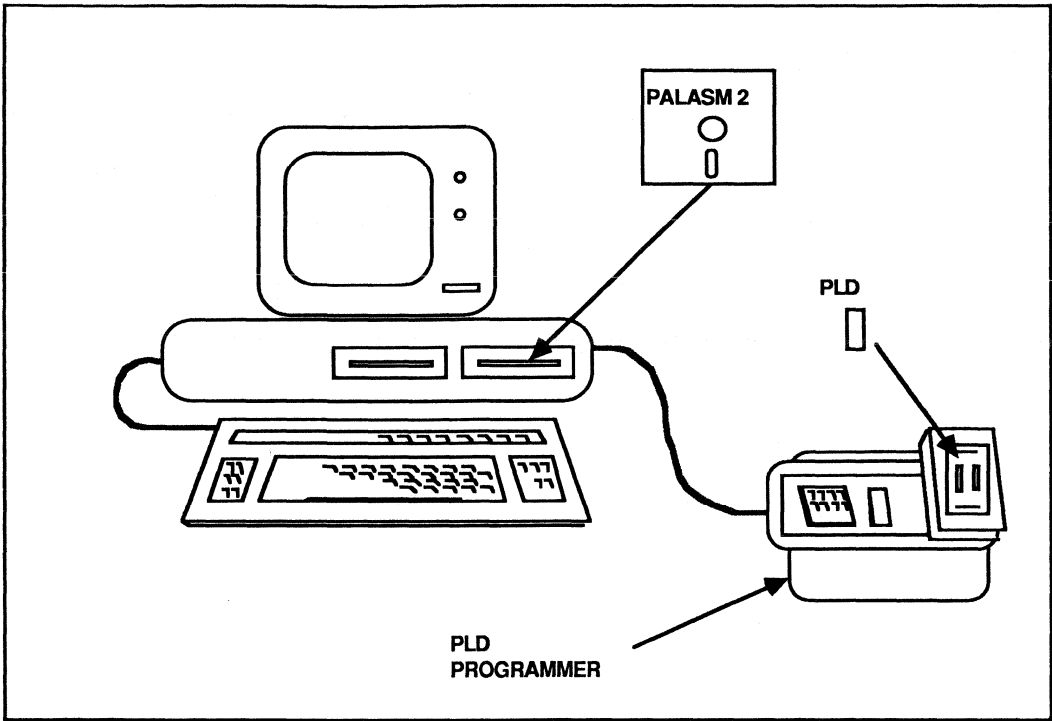

Figure 4-64
3. Connect the programmer to a serial port on the computer. Use the cable specified in the programmer manual. Figure 4-64 shows a typical programmer-to-computer connection.